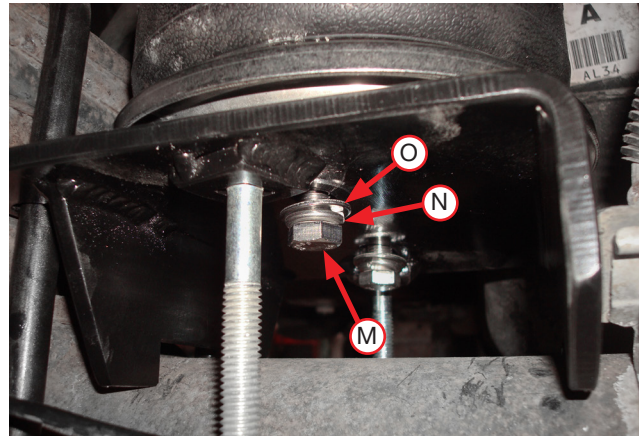

Fig. 22
4. Insert a 3/8" hex cap screw (M) through a split lock washer (N) and flat washer (O) then attach the air spring to the lower bracket by inserting the assembly up through the slot in the lower bracket (Fig. 22). Push the air spring so that the hardware is to the back of the slot and tighten the hardware securely.